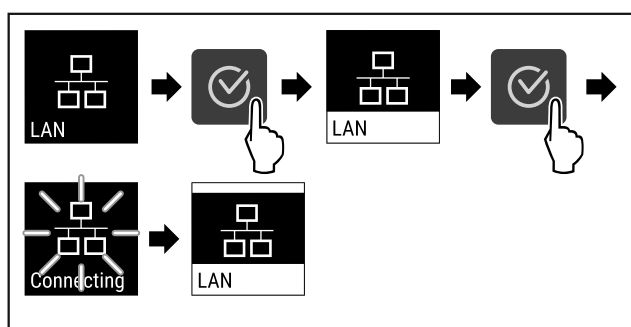

Fig. 80
- Complete the steps (see Fig. 80).